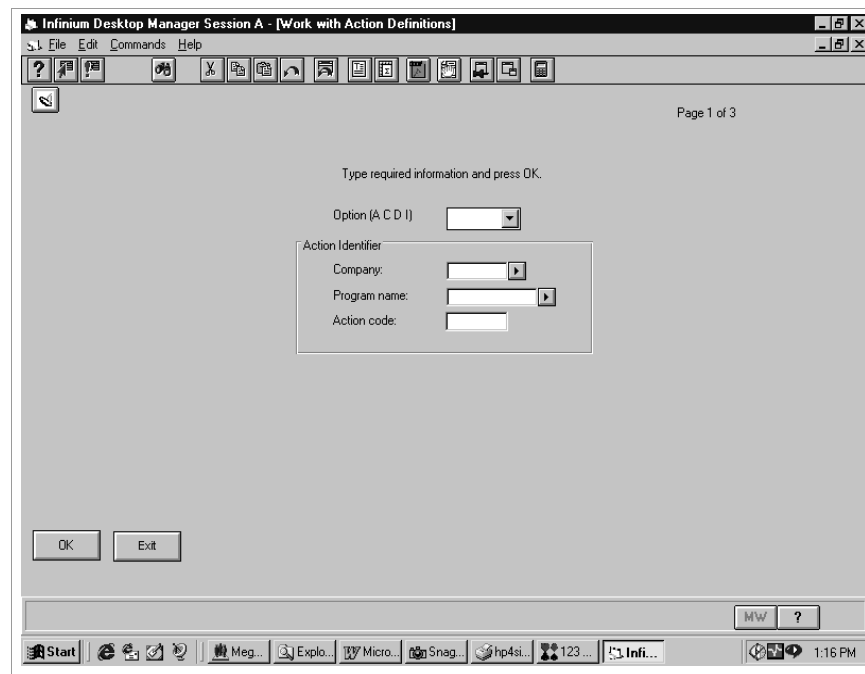

Figure 4-18: Work with Action Definitions screen
- 2 Select *Work with action definitions* [WWAD]. The system displays the screen shown in Figure 4-18.